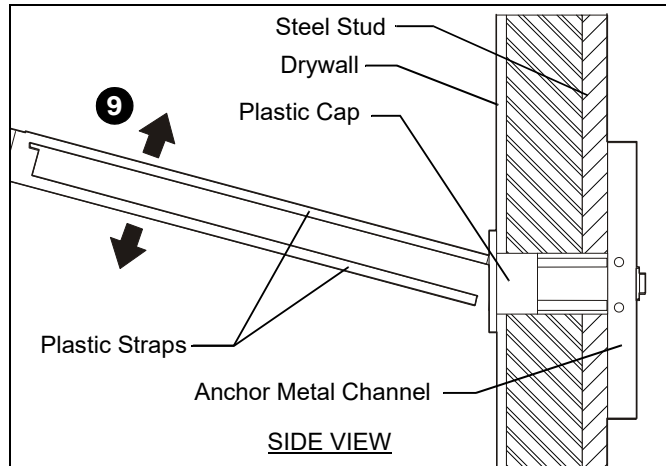

Figure 5
9. Snap off plastic straps on anchor (L) at wall by pushing side to side, snapping off straps level with flange of plastic cap. (See Figure 5)